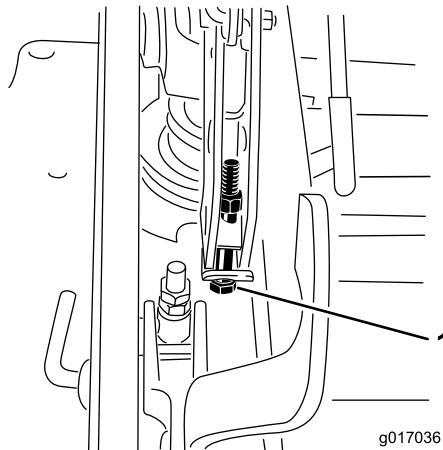

Figure 91
- If the deck is too low, tighten the single point adjustment bolt by rotating it clockwise. If the deck is too high, loosen the single point adjustment bolt by rotating it counterclockwise (Figure 91).